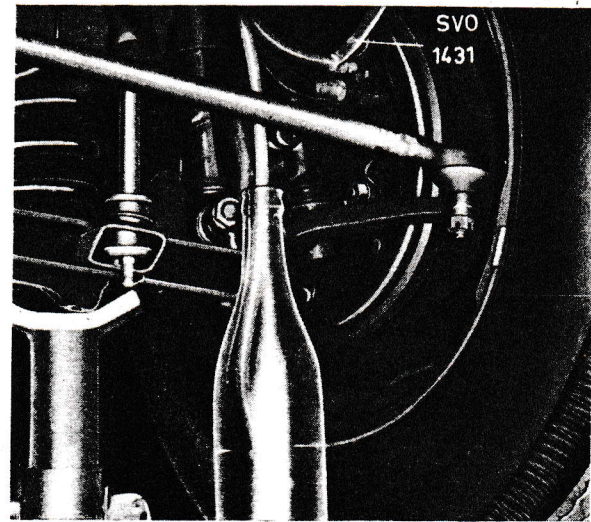

Fig. 30. Bleeding.
3. Place key SVO 1431 B with hose on the bleeding nipple and immerse the other end of the hose in a collecting vessel, see Fig. 30.